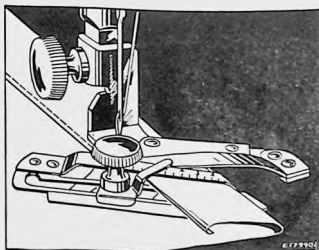

FIG. 42. SHOWING HOW ADJUSTABLE HEMMER IS USED FOR MAKING HEMS UP TO  $\frac{15}{16}$  INCH WIDE
- (3) Loosen the thumb screw on the hemmer and move the scale until the pointer registers with the number of the desired width of hem. No. 1 indicating the narrowest hem and No. 8, the widest, then tighten the thumb screw.
- (4) Place the cloth in the hemmer and draw it back and forth until the hem is formed, as shown in Fig. 42.
- (5) Draw the end of the hem back under the needle, lower the presser bar and commence to sew.
- (6) Guide sufficient cloth into the hemmer to turn the hem properly.